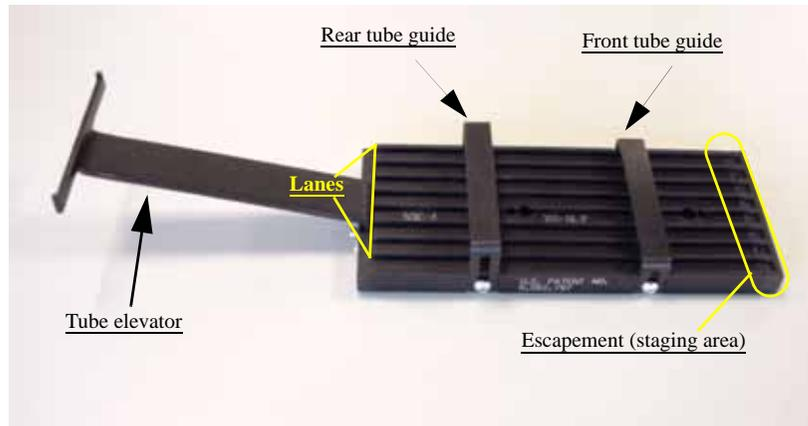

Figure 2-5—Input tube loader
- 1b) Identify the input tube loader. See *Figure 2-5*.